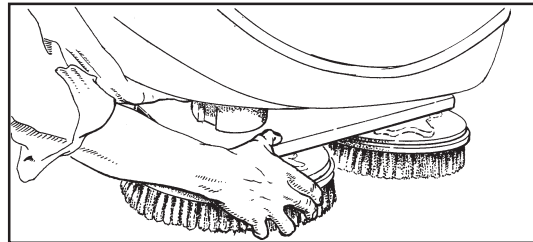

Figure 17B
- Put a brush or pad driver under the brush motor plate. See figure 17B.